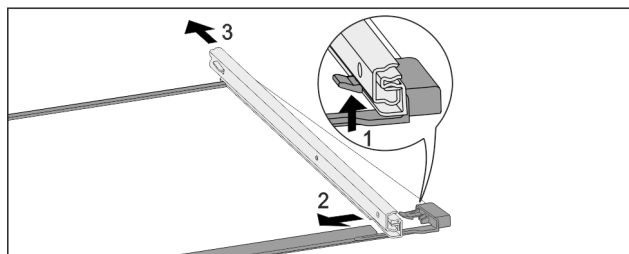

Fig. 241 Glass shelf with rails
- ▶ Push up front click-in hooks. Fig. 241 (1)
- ▶ Move the pull-out rails to the side Fig. 241 (2) and to the rear Fig. 241 (3).